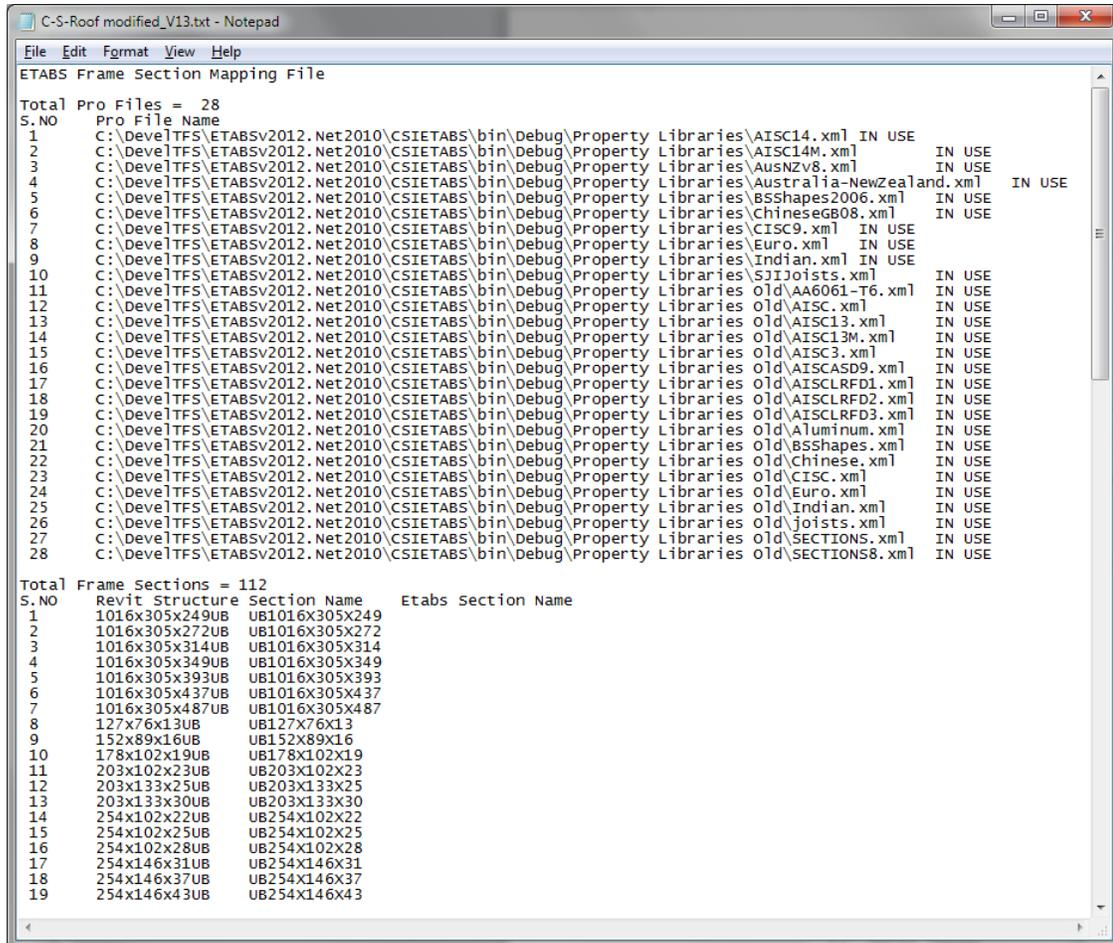

Figure 3: Section mapping file
- The user has the option to save a mapping file which can then be reused on subsequent imports. A sample mapping file is shown in Figure 3.